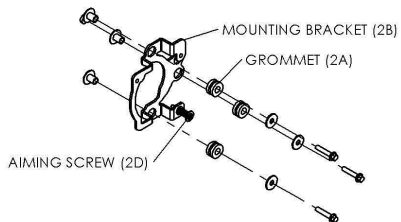

FIG. 2
6. INSTALL THE GROMMETS (2A) IN THE HOLES ON THE RIGHT (2B) AND LEFT (2C) MOUNTING BRACKETS AS SHOWN IN FIGURE 2.
16. BEFORE INSTALLING ALL REMOVED COMPONENTS BE CERTAIN THAT THE LIGHTS WORK AND ARE AIMED CORRECTLY. TO CHECK THE AIM, PARK THE BIKE ON A LEVEL SURFACE ABOUT 16 FEET FROM A WALL OR OTHER VERTICAL SURFACE. MEASURE THE DISTANCE FROM THE FLOOR TO THE CENTER OF THE FOG LIGHT (APPROXIMATELY 16 INCHES). THE TOP EDGE OF THE LIGHT PATTERN ON THE WALL SHOULD BE THE SAME DISTANCE TO THE FLOOR AS THE FOG LAMP MOUNTING HEIGHT. IF THE LIGHTS NEED ADJUSTMENT YOU CAN SCREW IN OR OUT THE ADJUSTMENT SCREW ON EACH BRACKET. SEE FIGURE 2 FOR THE LOCATION OF THE AIMING ADJUSTMENT SCREWS (2D).